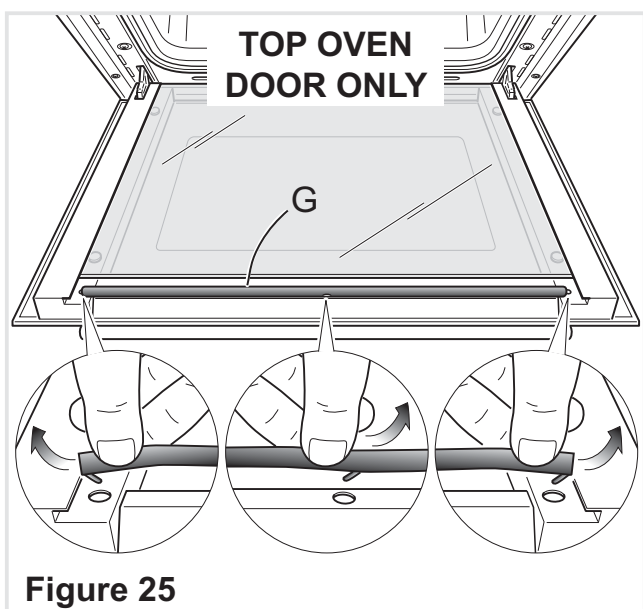

Figure 25
- **Top oven door only:** remove the seal "G" by unhooking the no. 3 fixing hooks (fig. 25).